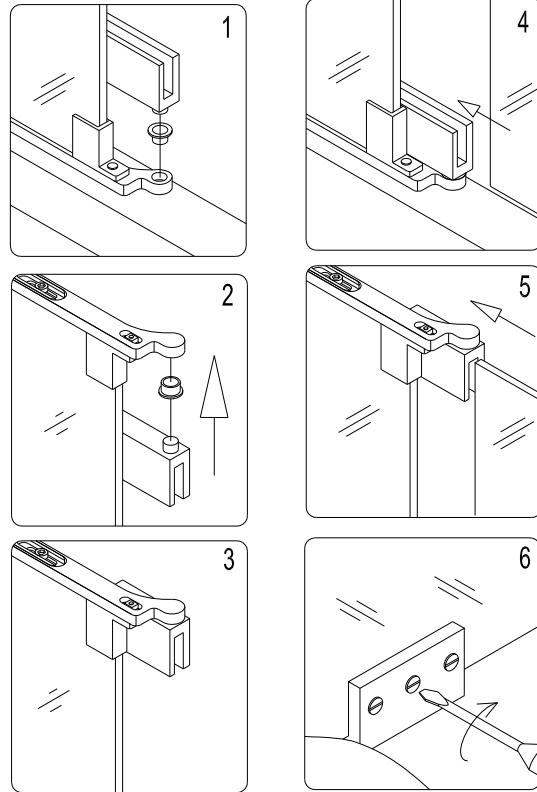

Fig 18
18. Install the bottom **Pivot assembly (12)** onto the **Pivot bracket (9)**. Make sure the **Washer (11)** is in between the pivot assembly and the pivot bracket. Make sure the rubber gaskets are in between the glass and the metal parts. Secure the glass with provided bolts. See Fig 18 for details.